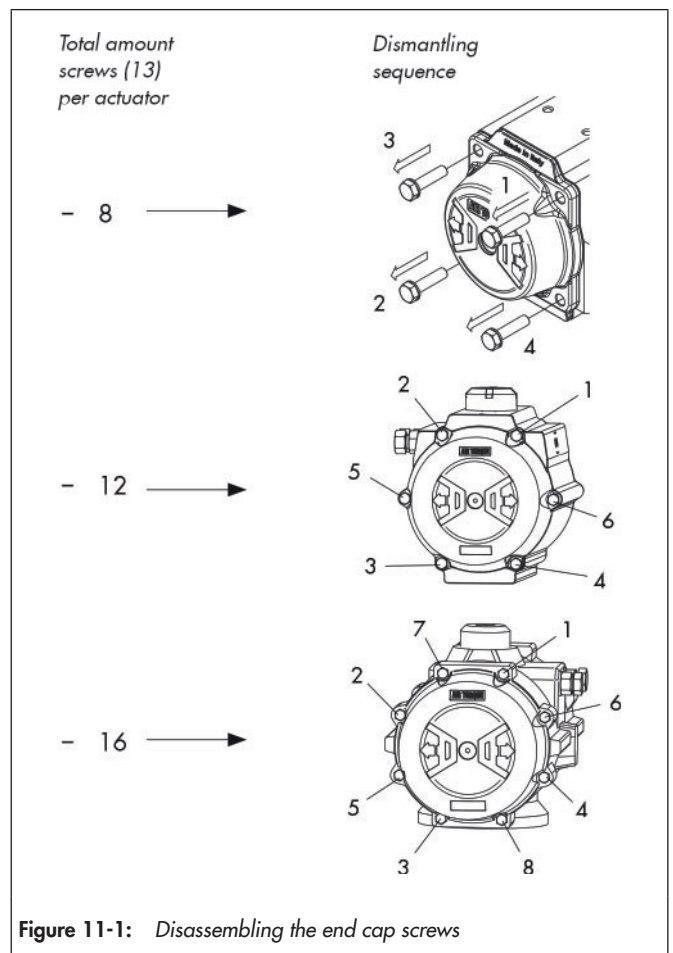

Figure 11-1: Disassembling the end cap screws
- ⇒ When disassembling the end cap screws, observe the order, see Figure 11-1.
⇒ Release the spring compression. Unscrew each end cap screw (13) one rotation each according to the order shown in Figure 11-1 and the number of rotations specified in Table 11-1.